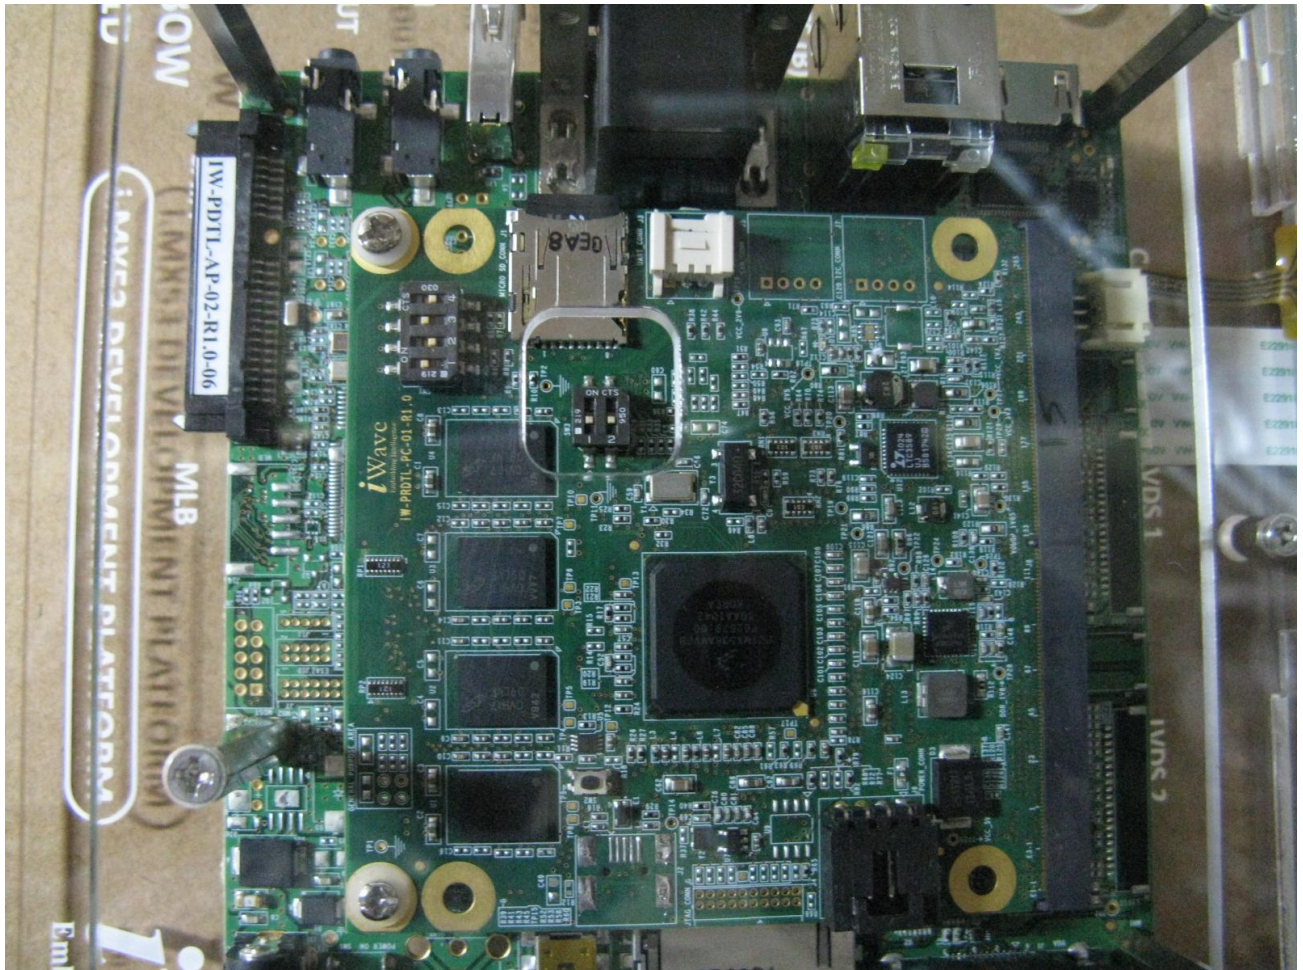

Figure 23: Bootstrap Switch
9. Now Select 'Echo typed characters locally' has to be enabled as shown in Figure 23.